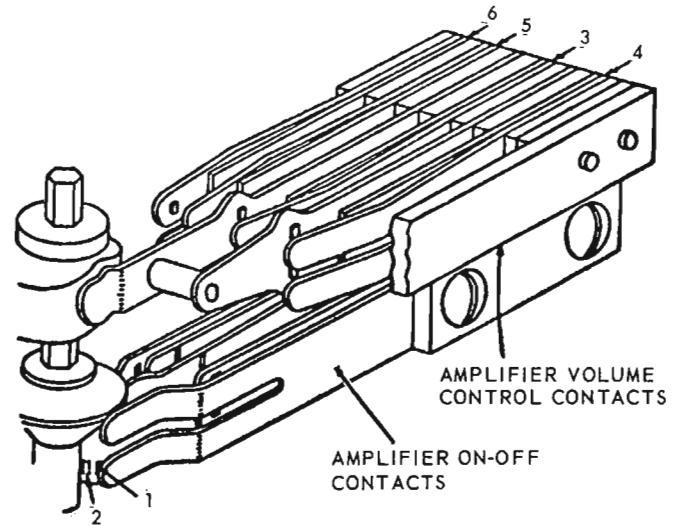

Figure 1. Amplifier Volume Control and On-Off Contacts.
3.06 The amplifier spring assembly should be inspected for proper contact sequence, contact follow, contact separation, spring separation and spring clearance. Proceed with the following inspection (refer to Figure 1):